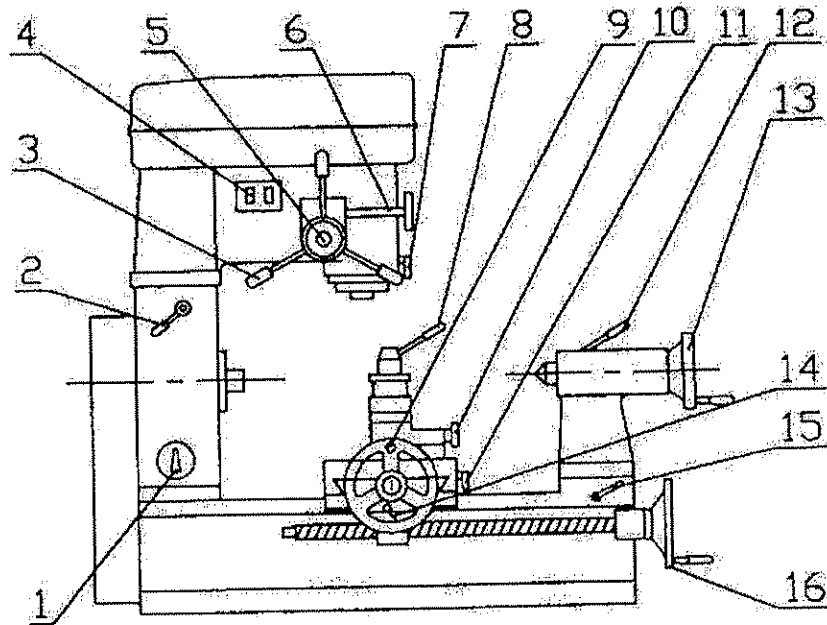

Fig. 6. Diagram of Operating System
7.1. Diagram of the Operating System (see Fig. 6)